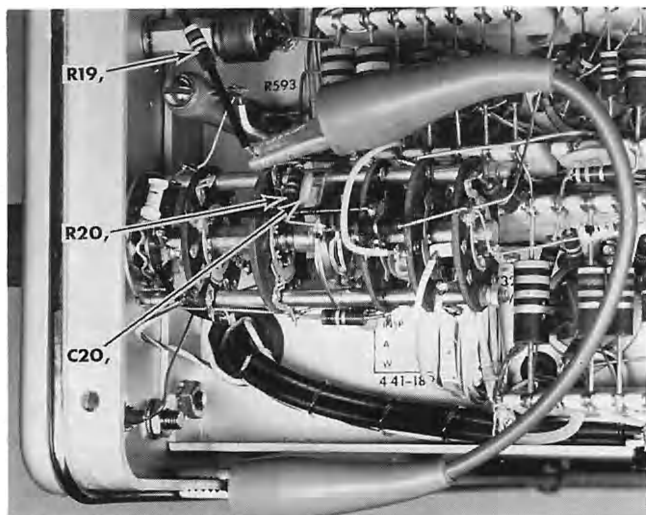

Fig. 6-4. Grounding the junction of R19, R20 and C20 to simplify the adjustment of the triggering controls.
- c. Connect a jumper strap (clip lead) between ground and the junction of R19, C20 and R20 (Fig. 6-4).